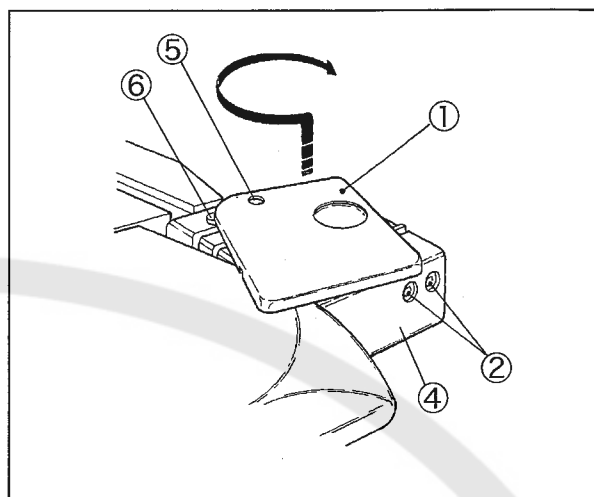
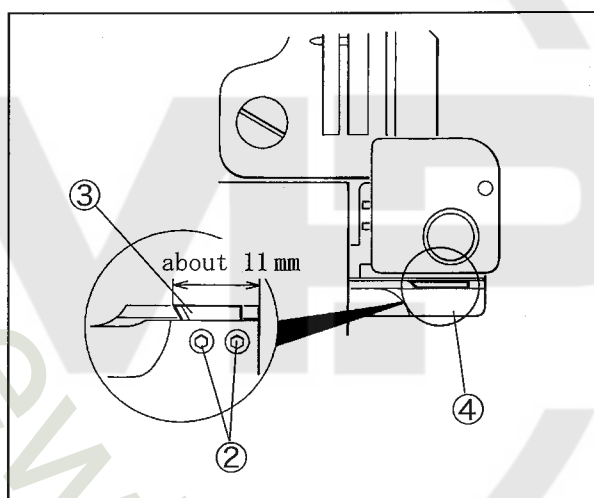

Fig. 12
Fig. 13
1. Turn the thread chain holder ① in the direction as shown in Fig. 12 while holding it up slightly.
2. Loosen the screws ②.
3. Change the knife ③. Install the knife to the position the knife tip is about 11mm away from the right end of thread chain cutting knife holder ④. (Refer to Fig. 13)
4. Tighten the screws ② to fix the knife ③.
5. Fit the pin ⑥ into the hole ⑤ on thread chain holder ① and the knife ③ into the slot of the knife respectively. Then, return the thread chain holder ①.